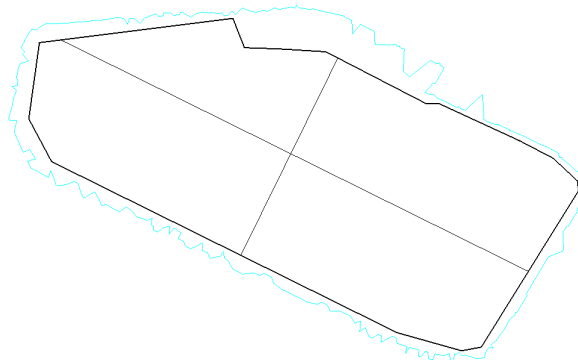

Figure 119: After Invert Selection and Hide Object, the surface and the next contour line remain.
16. Type **_Invert** and **_Hide** to hide everything except the surface and the next contour line (Figure 119).